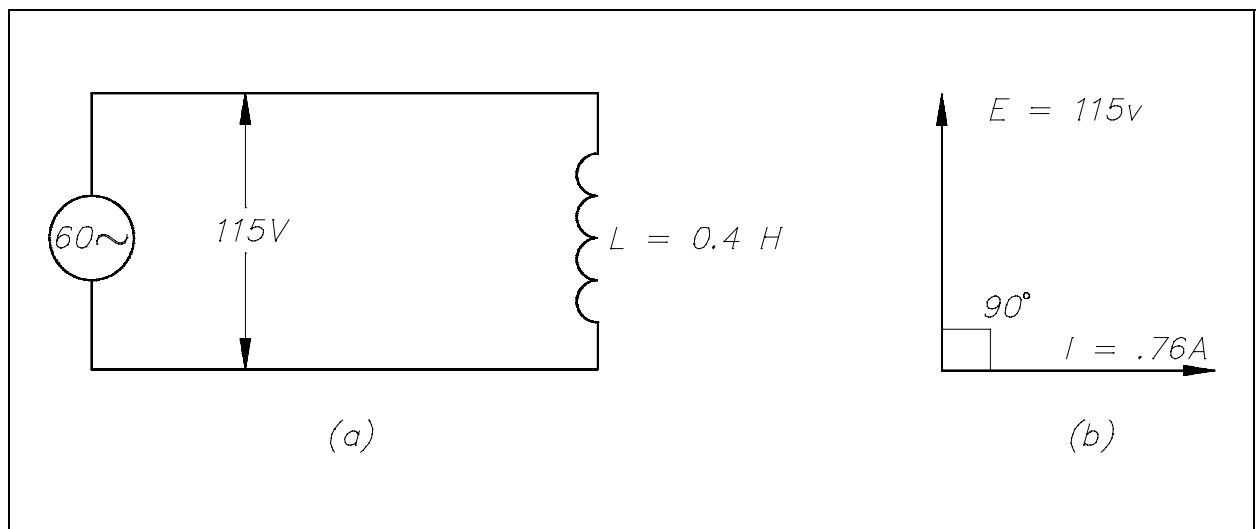

Figure 2 Coil Circuit and Phasor Diagram
**Example:** A 0.4 H coil with negligible resistance is connected to a 115V, 60 Hz power source (see Figure 2). Find the inductive reactance of the coil and the current through the circuit. Draw a phasor diagram showing the phase relationship between current and applied voltage.